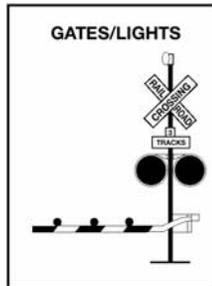

FIGURE 2.18
**Flashing Red Light Signals.** At many highway-rail grade crossings, the cross buck sign has flashing red lights and bells. When the lights begin to flash, stop! A train is approaching. You are required to yield the right-of-way to the train. If there is more than one track, make sure all tracks are clear before crossing. See Figure 2.18.
**Gates.** Many railroad-highway crossings have gates with flashing red lights and bells. Stop when the lights begin to flash and before the gate lowers across the road lane. Remain stopped until the gates go up and the lights have stopped flashing. Proceed when it is safe. See Figure 2.18.